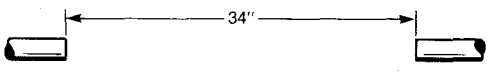

Fig. 33—Splice opening.
- Prepare cable for 34" (863 mm) minimum splice opening. See Figure 33.